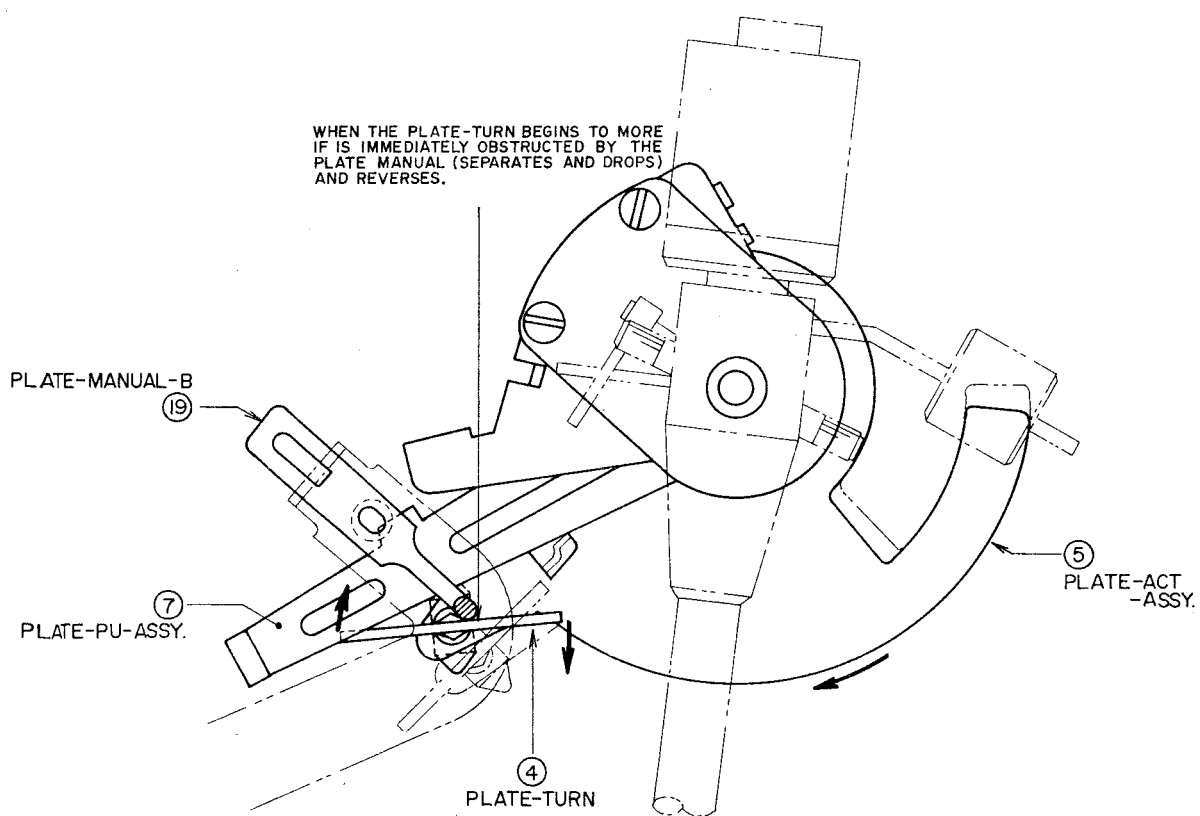

Fig. 11 Manual operation begins
At this condition if the knob of CAM-START (18) is moved to START CUT and PLATE-TURN (4) begins to operate, it is immediately obstructed by PLATE-MANUAL-B (19) and rotates 90°. (Fig. 11)